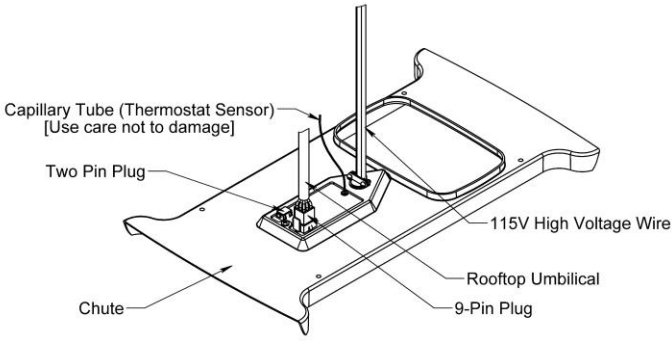

FIGURE 9
- C. Raise the ceiling assembly chute and insert the supply wiring through the cable clamp and into the wiring box so that 4-6" of supply conductor is inside the box. Secure the cable clamp over the supply wire sheath so that no movement is possible (See Figure 9).
- F. Plug the air conditioner electrical conduit into the 9-position receptacle as shown in Figure 9.
- G. If the optional heater accessory package is being installed, remove the cover from the 2-position receptacle and plug the heater cord into the receptacle as shown in Figure 9.